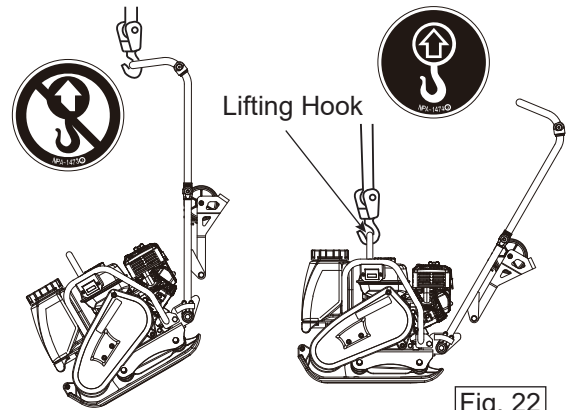

Fig. 22
3. When lifting, always use the lifting hook. Never lift by using the handle as the lifting hook. (Fig. 22)